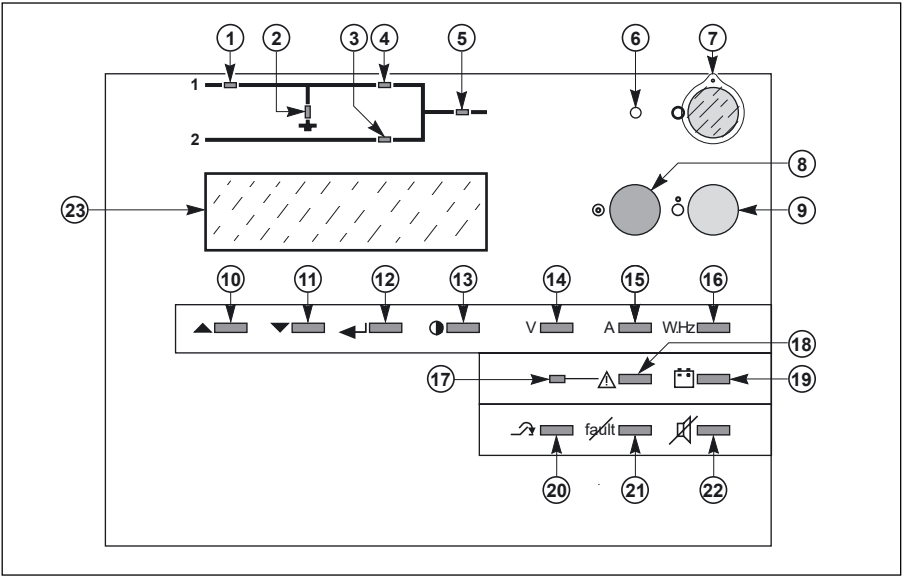

Fig. 19
- ▶ press the "inverter OFF" button ⑨ on the control panel for three seconds (see figure 19).
The display is structured around primary and secondary messages, measuring tables and setting screens. As a rule, the message displayed on the screen is always a primary one. The secondary messages, if any, are accessed by pressing keys (10) ▲ and (11) ▼ (see figure 19). The presence of secondary messages is indicated by the arrow ↓ at the end of the primary message. Return to the primary messages is automatic if the keypad is not used for 2 minutes, or direct by pressing key (18) (see figure 19). The display screen lights up when a key is pressed, and goes off if no key is pressed for 5 minutes.